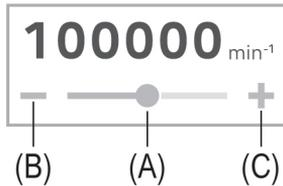

Figure 7.
Slide the slider (A), or touch [-] (B) or [+] (C) (Figure 7).